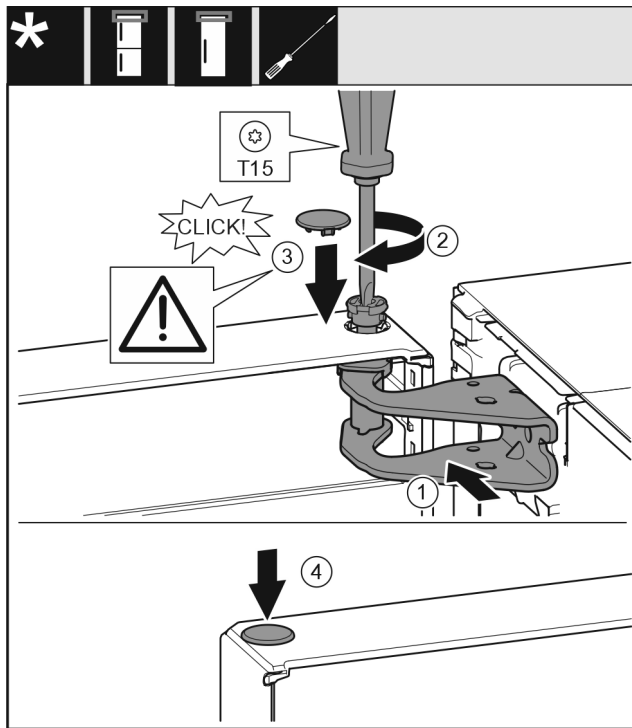

Fig. 18
- ▶ Align the top of the door with opening in the bearing bracket. Fig. 18 (1)
- ▶ Insert the bolt and tighten with a T15 screwdriver. Fig. 18 (2)
- ▶ Fit the protective cover to protect the door: Insert the protective cover and check that it lies flush on the door. If not, insert the bolt fully. Fig. 18 (3)
- ▶ Insert the plugs. Fig. 18 (4)